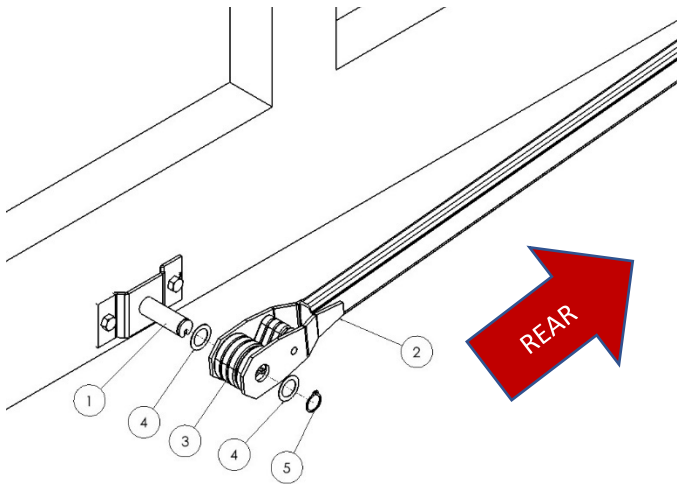

Figure 3.6
Once the lower arm is on the pivot pin, place another stainless steel bushing (4) onto the pivot pin and attach the retaining ring (5) to the groove in the pivot pin. (Figure 3.6)